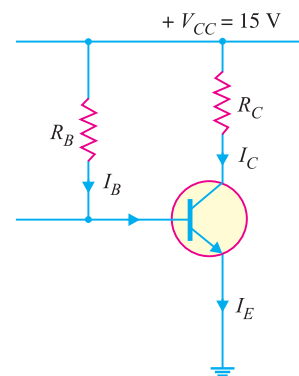

Fig. 9.10
**Solution.** Fig. 9.10 shows CE amplifier using base resistor method of biasing.